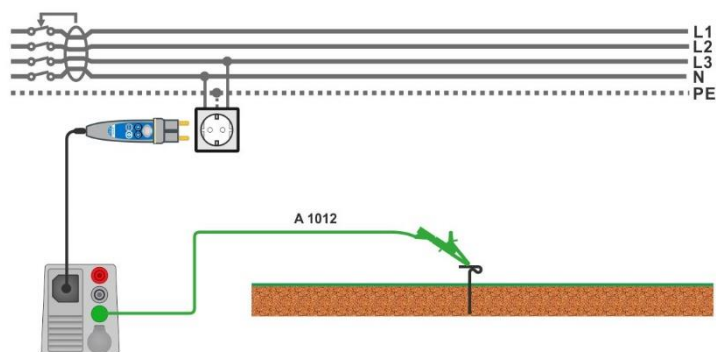

Figure 7.34: Connection for  $U_c(P)$  measurement
For connection see **Figure 7.34 Connection for  $U_c(P)$  measurement.**
- › Connect test lead to P/S terminal and external earthed point (optional, see **Figure 7.34**).